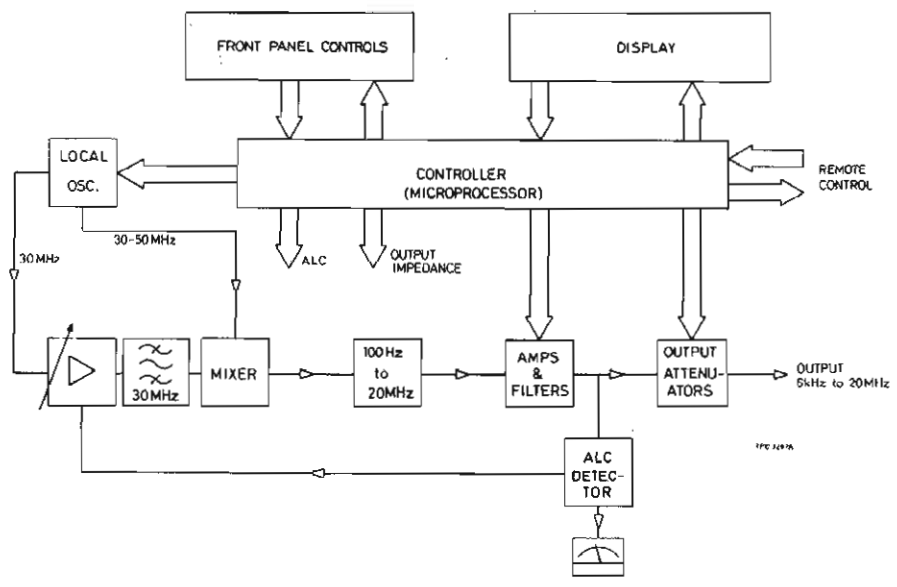

Fig. 1 Block diagram TF 2356
1. The following summaries are outline circuit descriptions of the sender and receiver which are intended to be read in conjunction with their respective block diagrams (Figs. 1 and 2). Detailed descriptions of each board are given in the respective service manuals.